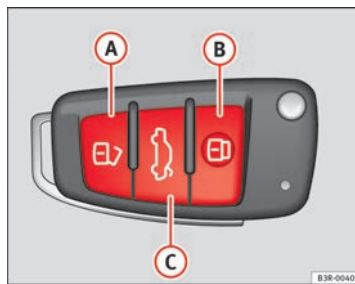

Fig. 79 Remote control key: Control buttons ▶
- Press button **(A)** => Fig. 79 for about 1 second.